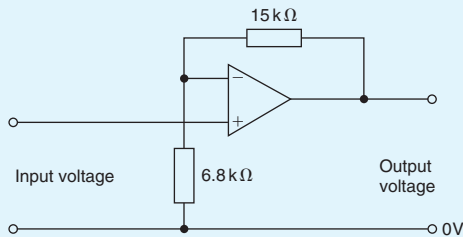

Figure 19.18
1. If the input voltage for the op amp shown in Fig. 19.18 is  $-0.5\text{ V}$ , determine (a) the voltage gain, (b) the output voltage.